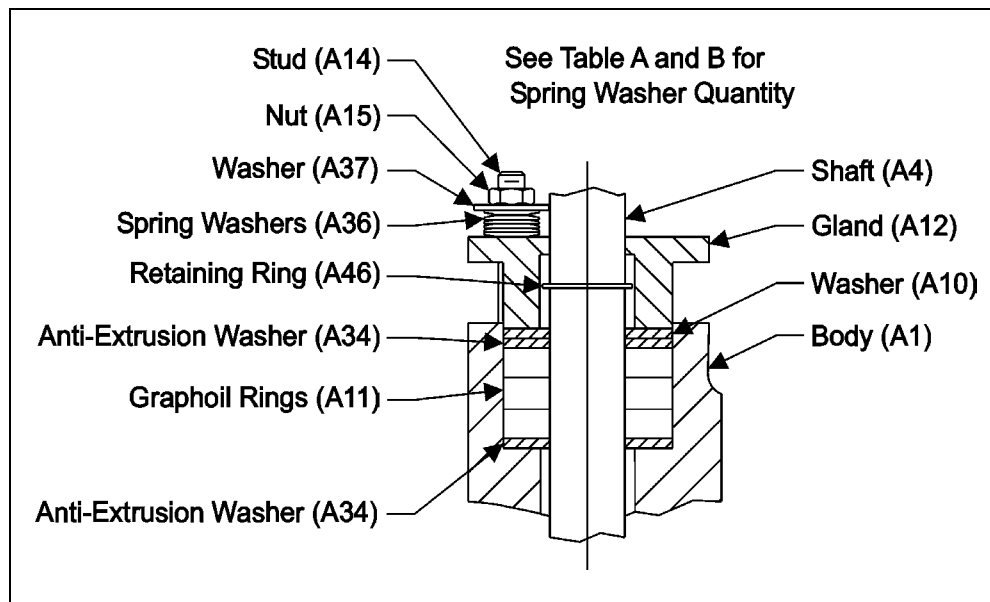

Figure 8 — Packing Option (G2L)
Note: Arrange the spring washers in the configuration shown in Figure 8 on page 13, with the top and bottom washers in series and the remaining washers in parallel.
- b. Place the new packing (A11) and anti-extrusion washers (A34) in the body, one ring at a time, in the configuration shown in Figure 8.
- The two flat washers (A37) in the configuration shown in Figure 8 on page 13, with the top and bottom washers in series and the remaining washers in parallel—do not tighten the nuts.